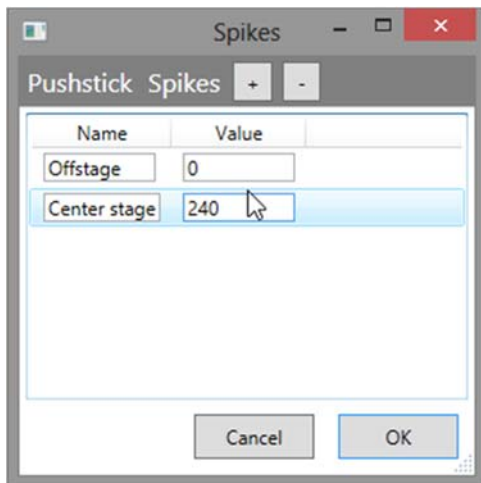

Figure 52
3. Enter the **Names** and **Values** as shown below (Figure 52).